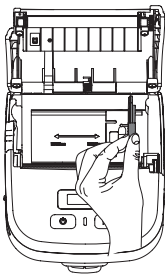

Figure 1
1. Adjust the paper width according to the paper width, hold the top of the paper width baffle and move it to the right (as shown in Figure 1).